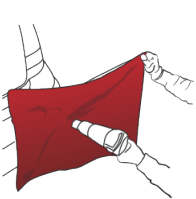
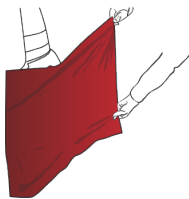
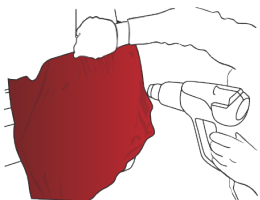

Figure 20
Figure 21
Figure 24
- › Heat the vinyl (FIG. 20) to a temperature ranging from 30 °C to 40 °C (from 86 °F to 104 °F), then stretch the film so as to completely wrap the convex surface. (FIG. 21)
- › After this operation, heat to a temperature ranging from 30 °C to 40 °C (from 86 °F to 104 °F) (FIG. 24) and work the memory effect of the film to eliminate all folds using the squeegee.
! *Take particular care when heating the stretched film (FIG. 20) (FIG. 24). The hot air gun or the gas torch must never be held at a right angle to the surface of the film. It should be inclined so as to heat a larger surface area. Keep the hot air gun moving all the time. Heating the film from a reduced distance and over a prolonged time may irreversibly damage the film.*